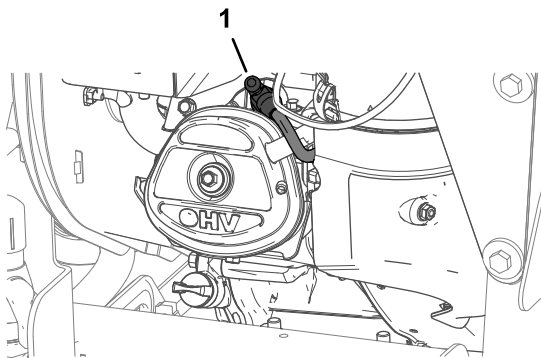

Figure 69
6. Disconnect the spark-plug wire (Figure 69).